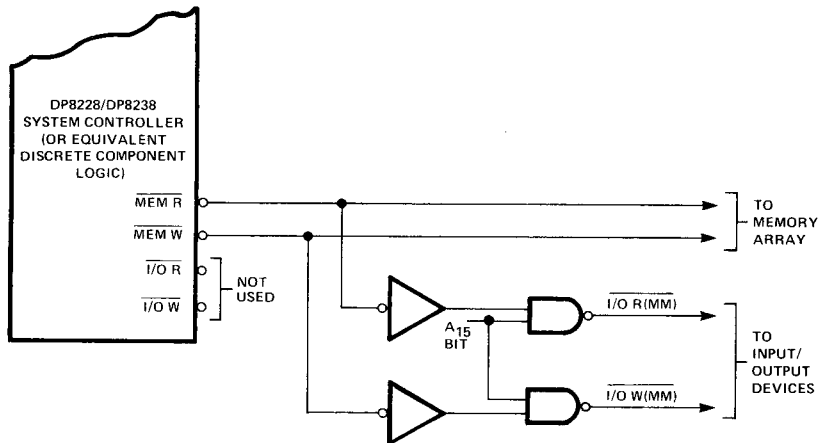

Figure 4. System Control Signals for Memory Mapped Input/Output Addressing
When the INS8080A system is configured for memory mapped input/output addressing, an area of the memory array is assigned to the input/output devices by using system control signals for the input/output architecture as shown in figure 4. In this configuration, new input/output control signals [I/O R (MM) and I/O W (MM)] are generated by gating the MEM R and MEM W signals with most significant address bit A15. (Since these new input/output signals connect in exactly the same manner as the corresponding signals of the isolated input/output configuration, the system bus characteristics are unaltered.) Address bit A15 is used because it allows up to 32k bytes of memory addressing, and because it is easier to control with software. However, any other address bit may be used for this gating function. When bit A15 is low, the memory address space is active and when bit A15 is high, the input/output device's address space is active.